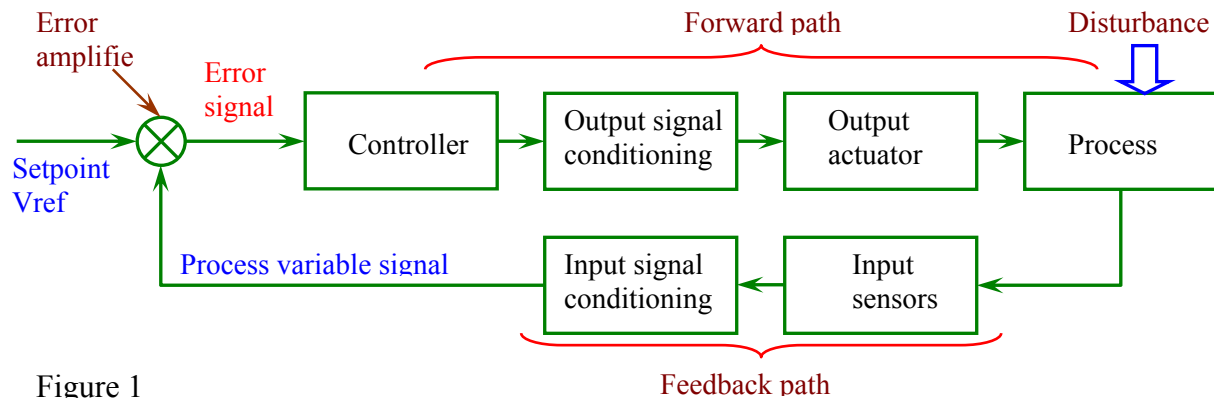

Figure 1
5. **Closed-loop control system.** Figure 1 below shows a typical closed-loop control system